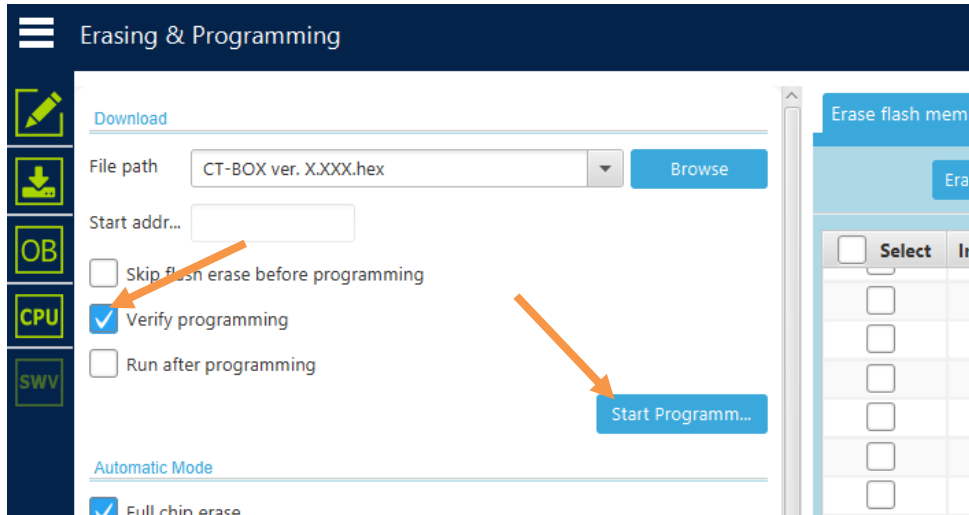

Figure 20: Programming new firmware
- Check the box **Verify programming** and click **Start Programming** (Figure 20);